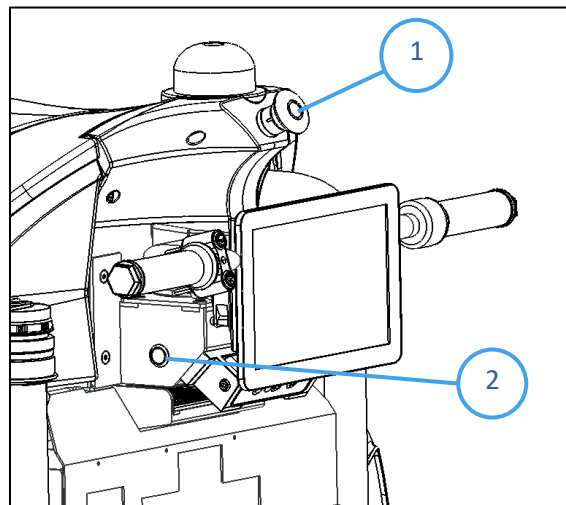

Fig. 1
1. A red emergency button is located at the back of the robot (Fig. 1 - 1).